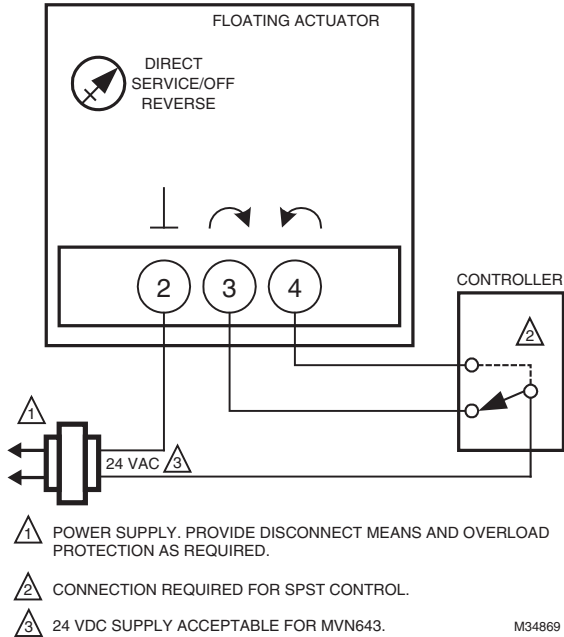

Fig. 11. MN6105 with On/Off Control.
2. Wire actuator using Figures 11 through 19 for the application required.